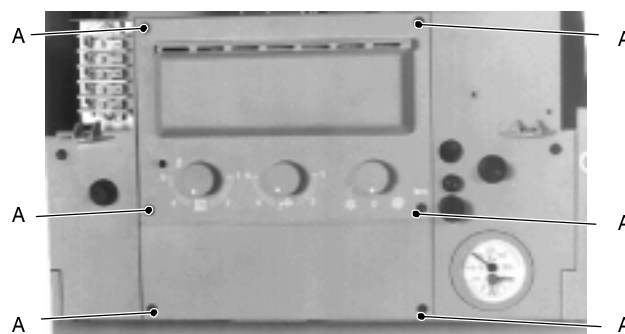

fig. 46
- 2 unscrew the six screws A (fig. 46) and remove both panels;